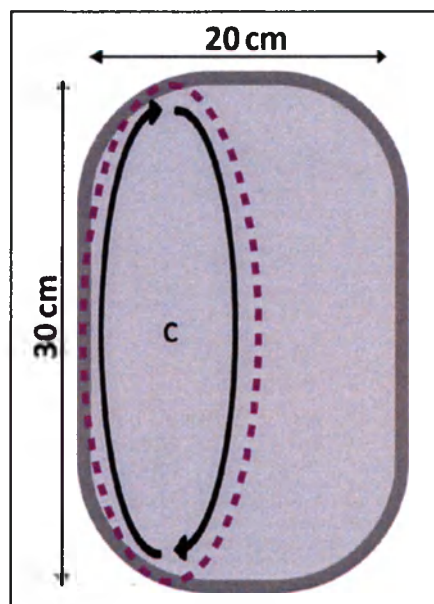

Figure 35: Segment C Treatment Illustration
- Treat segment **C** in a circular horizontal **Clock-Wise** manner (see Figure 35) in a gliding technique, until the skin surface at the treated segment reaches 43-45°C or the patient cannot tolerate the heat.